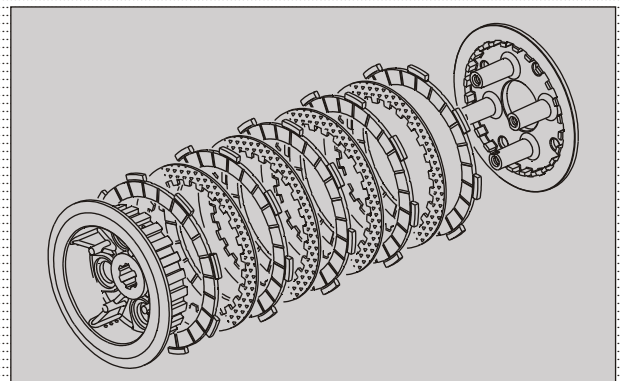

Fig. 3.13
- Separate disc clutch pressure, hub clutch, plate clutch drive and plate clutch driven. (Fig. 3.13)